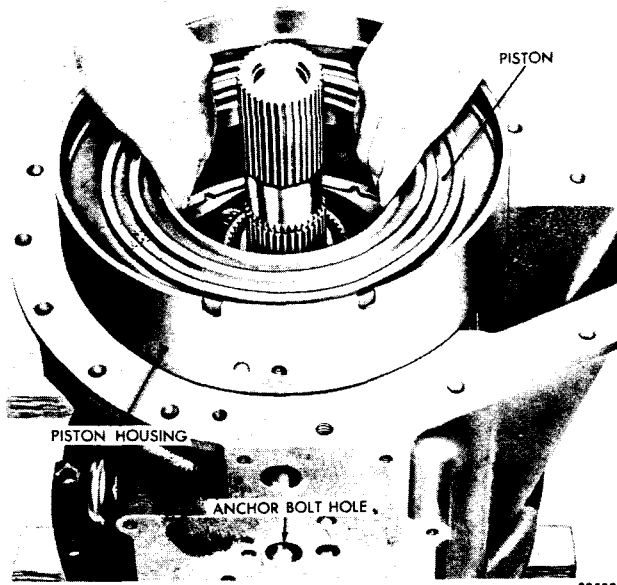

Fig. VII-16. Installing (or removing) high-range clutch piston housing and piston
(5) Install the high-range clutch piston and housing assembly (fig. VII-16).
(6) Align the tapped hole in the piston housing with the anchor hole in the transmission housing and install the bolt and lock washer which retains the housing (fig. VII-16).